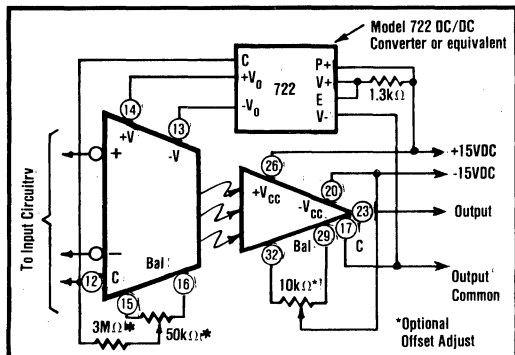

FIGURE 5. Power and Offset Adjust Connections.
The common-mode voltage is the voltage midway between the two inputs of the amplifier measured with respect to input common. It is the algebraic average of the voltage applied at the amplifiers' input terminals. In the circuit in Figure 5, $(V_+ + V_-)/2 = V_{CM}$. (Note: Many applications involve a large system "common-mode voltage." Usually in such cases the term defined here as " V_{CM} " is negligible and the system "common-mode voltage" is applied to the
The power supply connections for the 3650 and 3652 are shown in Figure 5. When a DC/DC converter is used for isolated power it is placed in parallel with the isolation barrier of the amplifier. This can lower the isolation impedance and degrade the isolation-mode rejection of the overall circuit. Therefore, a high quality, low leakage DC/DC converter such as the Burr-Brown Model 722 should be used.
The offset nulling circuits are identical for the 3650 and 3652 and are shown in Figure 5. The offset adjust circuitry is optional and the units will meet the stated specifications with the BAL terminals unconnected. Provisions are available to null both the input and output stage offsets. If the amplifier is operated at a fixed gain, normally only one adjustment will be used; the output stage (10kΩ adjustment) for low gains and the input stage (50kΩ adjustment) for high gains (>10).
**The offset adjustment circuitry and power supply connections have been omitted for simplicity. Refer to Figure 5 for details.